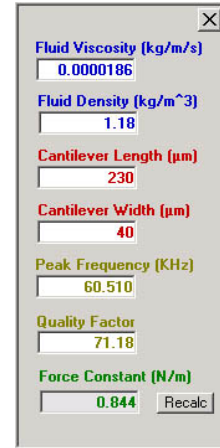

Figure 10-13
4. While the 10 kHz sweep is being performed, select from the menu bar *Cantilever > Calculate Force Constant*. The system will perform a slow-sweep through the vibration resonance, lock the resulting graph data, and determine the resonance frequency and the Q of the resonance from this data. The resonance frequency and Q results, along with several other physical constants used to estimate the force constant of the cantilever, will be posted in a panel appearing on the righthand side of the **Wave Configuration** window (Figure 10-13). The parameters are listed below.